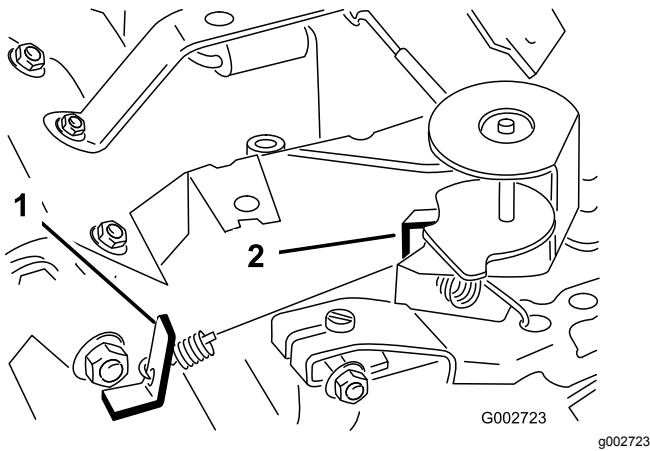

Figure 40
3. Bend the governed idle spring anchor tang (Figure 40) to attain an idle speed of 1,675 to 1,175 rpm.
6. Bend the high-speed spring anchor tang (Figure 40) to attain a high speed of 3,350 to 3,450 rpm.